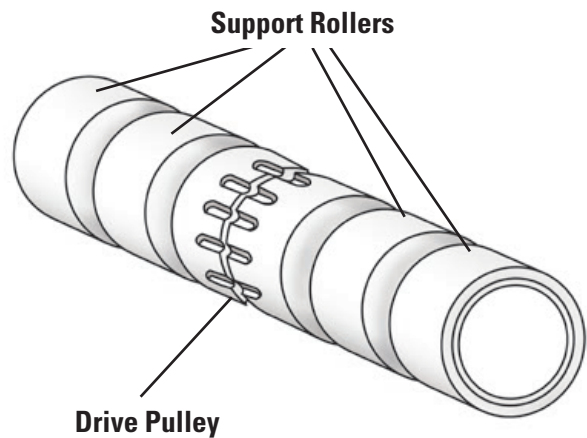

Figure 28
- Pulley assemblies with individual support rollers and drive/idler pulley (see Figure 28) can also be used.